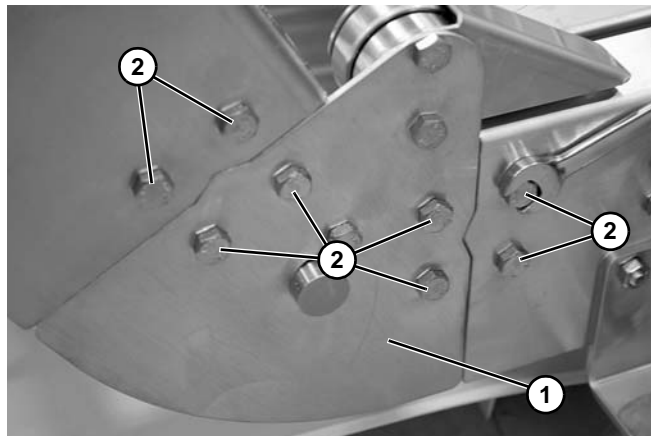

**Figure 9**
3. Remove bearing guard (**Figure 9, item 1**) with bearing.